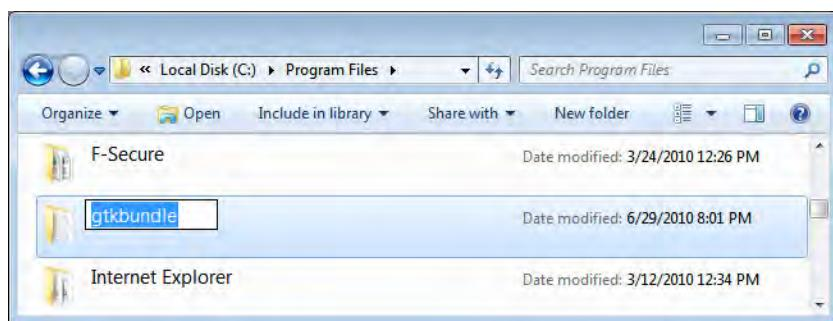

Figure 5-19. Creating a folder for PyGTK
1. Create the following folder: C:\Program Files\gtkbundle (Figure 5-19).